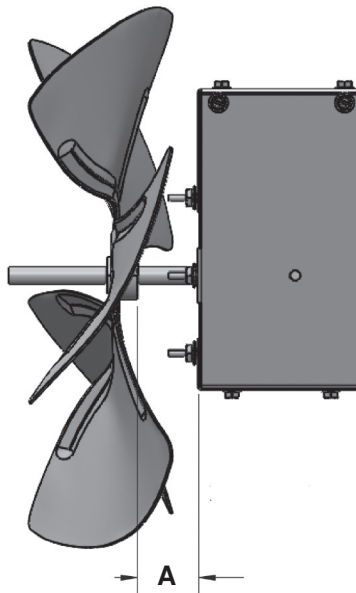

Figure 7. Fan and Motor Spacing (Refer to Table 6)
7. Ensure that fan is in proper position on shaft (see Figure 7) and setscrew is tightened in accordance with torque listed in Table 6.
*See Figure 7 .